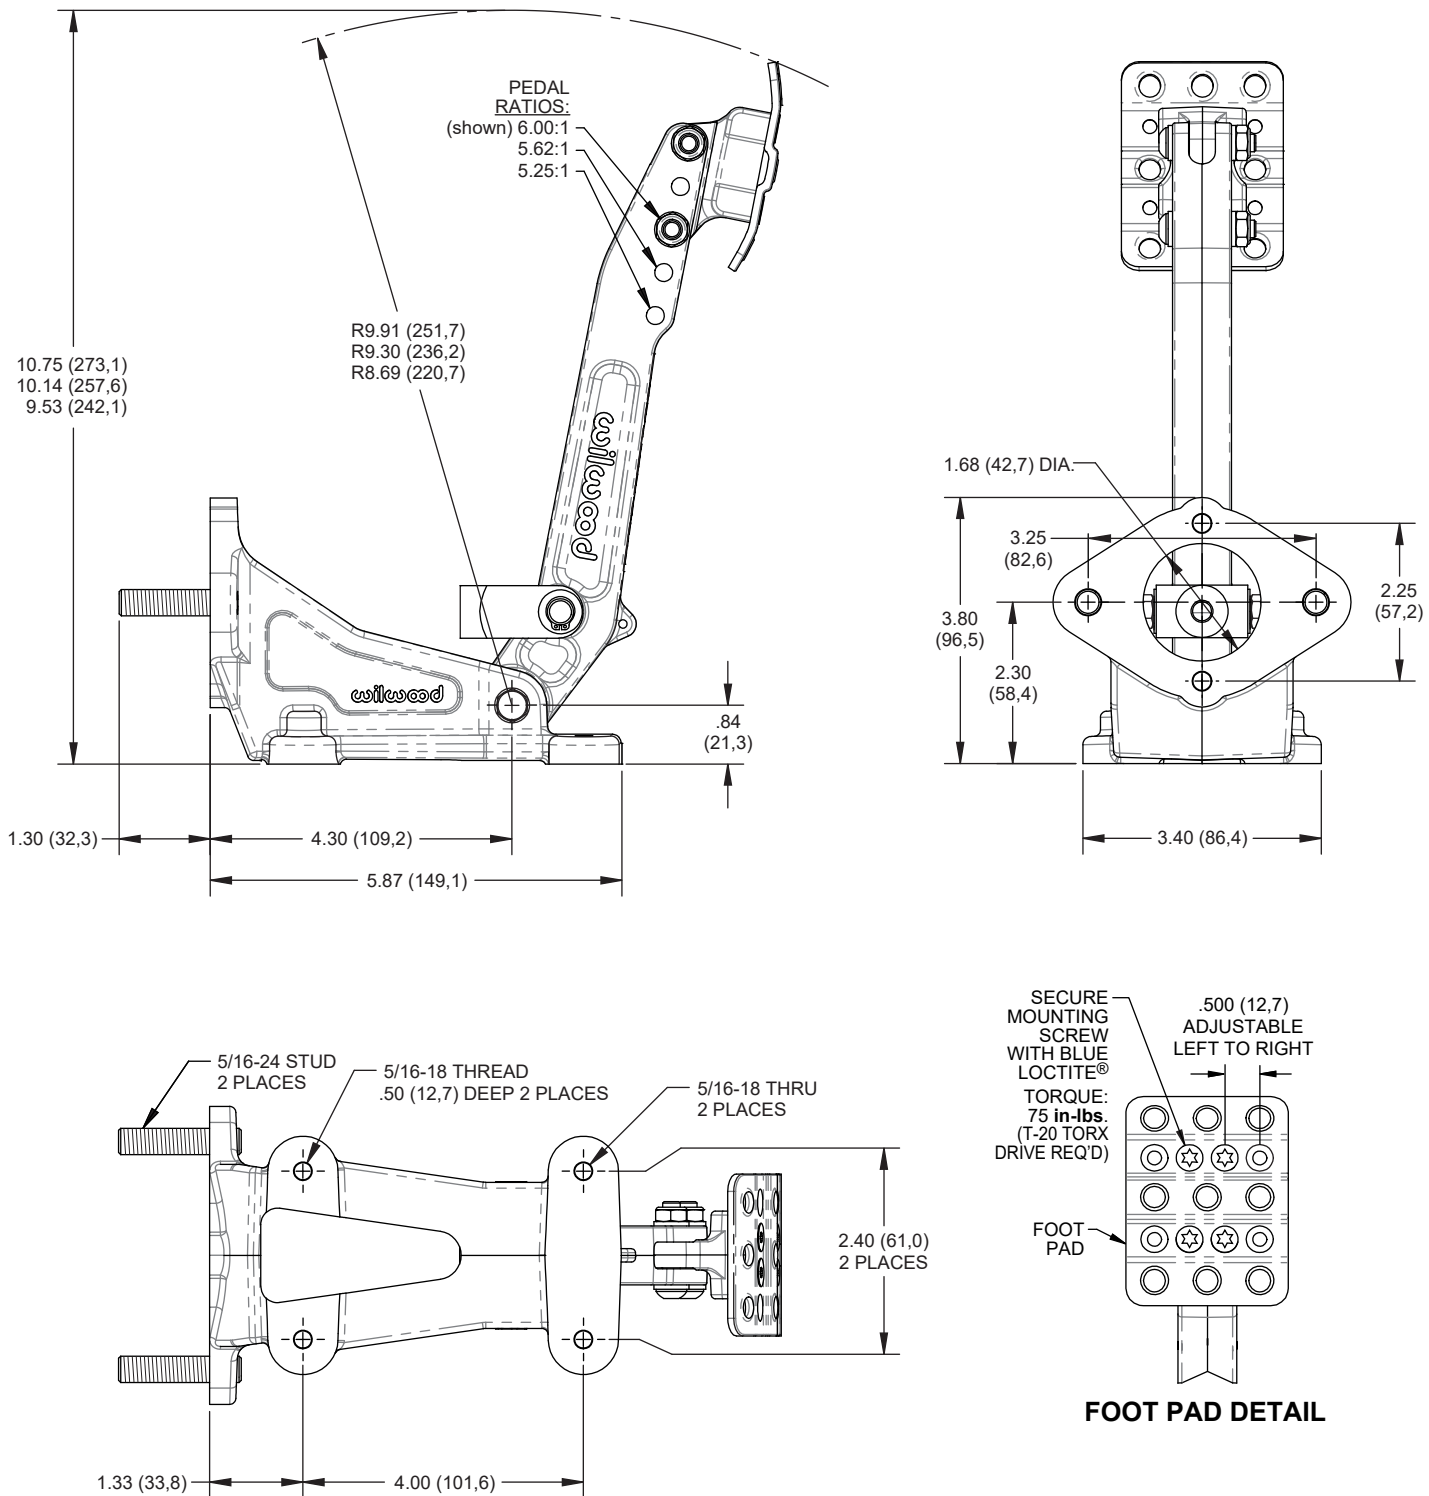
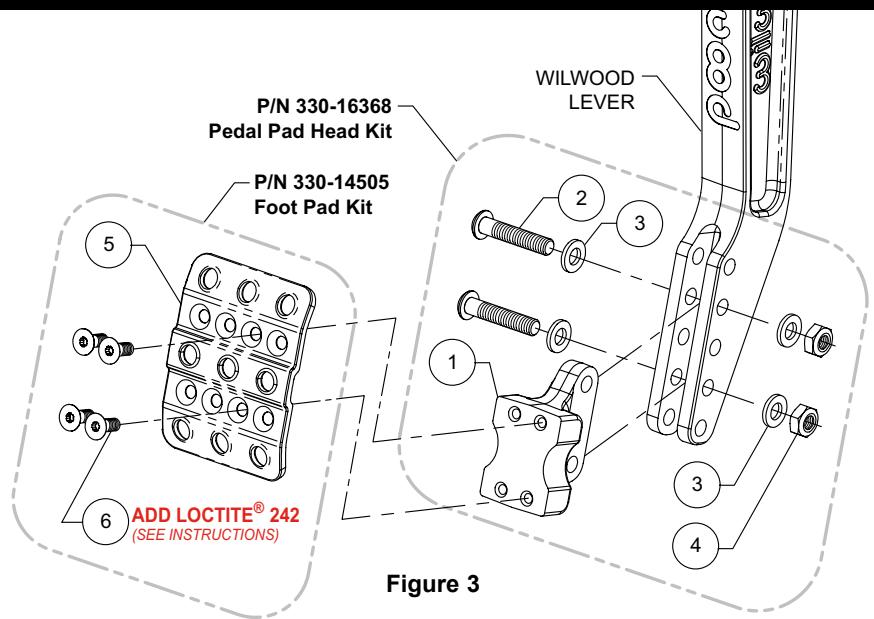

Figure 1. Forward Floor Mount Pedal Assembly, Physical Dimensions, 5.25:1 to 6.00:1 Ratio (p/n 340-17698)
Figure 3
•Wilwood's forward floor and swing mount pedal assemblies must be mounted using the four 5/16-18 outboard tab mounting holes as shown in Figures 1 & 2. Attach the pedal assembly to two sturdy beams or plates with four 5/16" bolts. Pedal assembly must be rigidly attached to frame and not deflect under heavy pedal forces. **NOTE: Pedals must be free from obstructions over their entire range of motion.** Allow enough space so pushrod adjustments can be made and master cylinders are accessible.
•Install the pedal pad head (1) into the “fork” of the pedal arm in the desired location as shown in Figure 3. Secure in place using bolts (2), washers (3), and locknuts (4).
•Torque locknuts (4) to 120 in-lbs.
•Orient foot pad (5) as shown in Figure 3. Pad may be installed in three different positions as shown in Foot Pad Detail of Figures 1 and 2. Secure to pedal head (1) using four T-20 drive Torx screws (6). Apply blue *Loctite*® 242 to the threads and torque screws to 75 in-lbs.